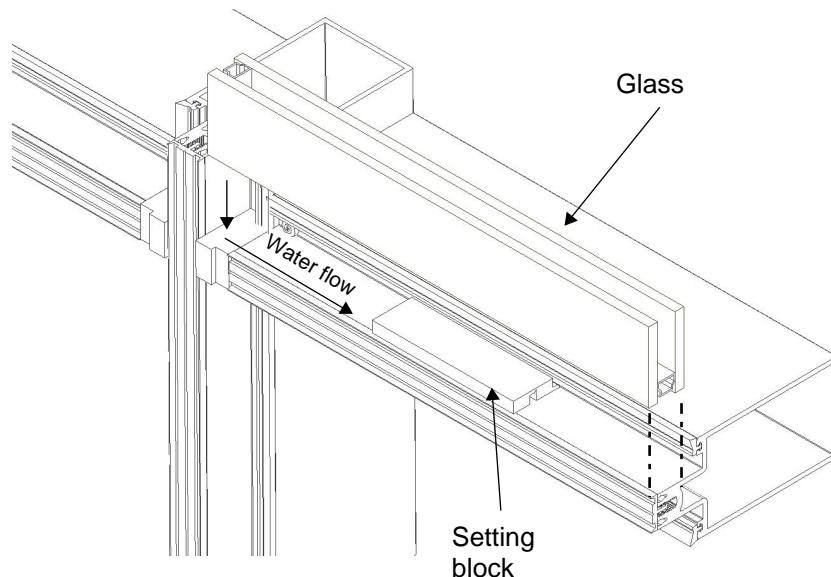

Figure 24: Install glass using setting blocks, which are typically installed at quarter-points.
- Install glass using 4" long standard setting blocks (P946 for 1" glass) at quarter-points or as indicated on approved shop drawings, as shown in Figure 24.